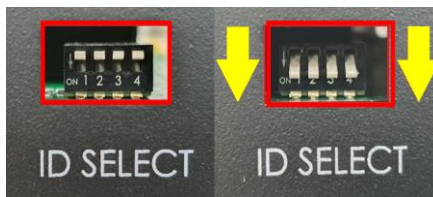

Figure 19. Change 'ID SELECT' DIP switch to on
5. Change the 'ID SELECT DIP SWITCH' to ON status (see right image of Figure 19).